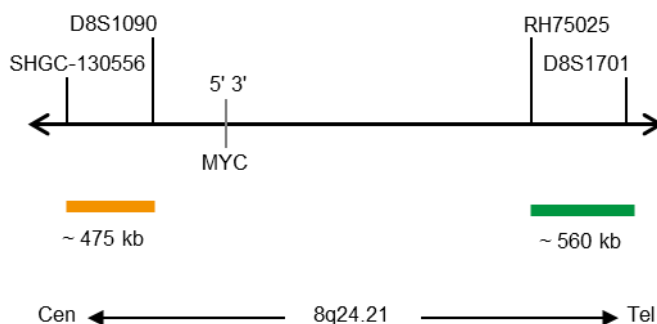

Fig. 1: MYC Probe map (not to scale)
- ZyGreen (excitation 503 nm/emission 528 nm) labeled polynucleotides (~6.0 ng/ μ l), which target sequences mapping in 8q24.21* (chr8:130,373,051-130,930,673) distal to the MYC breakpoint region (see Fig. 1).
- ZyOrange (excitation 547 nm/emission 572 nm) labeled polynucleotides (~2.5 ng/ μ l), which target sequences mapping in 8q24.21* (chr8:127,888,765-128,363,281) proximal to the MYC breakpoint region (see Fig. 1).